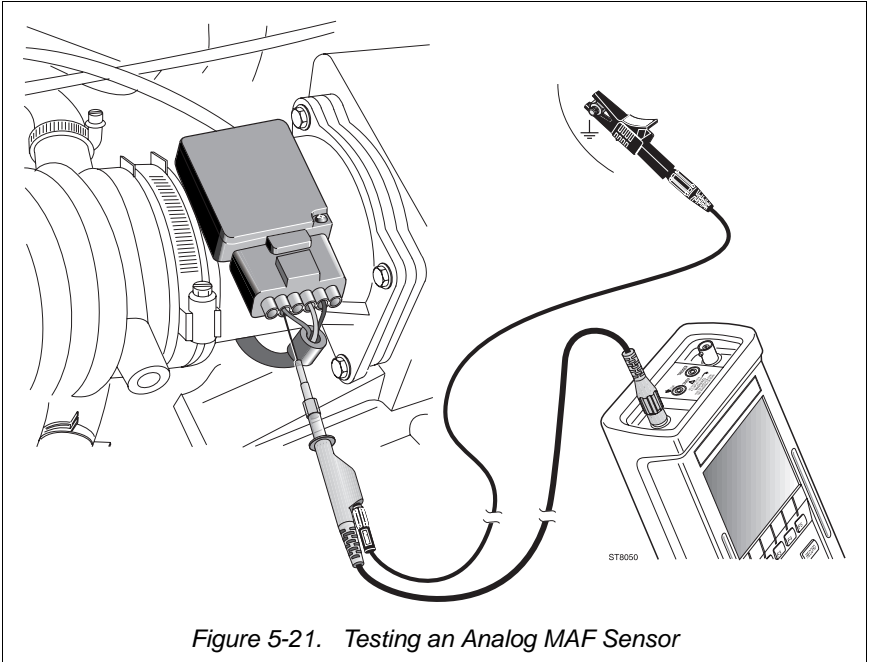

Figure 5-21. Testing an Analog MAF Sensor
③ Connect the test leads as displayed by the test tool's Connection Help and shown in Figure 5-21.
④   Starts the Mass Air Flow Sensor test.